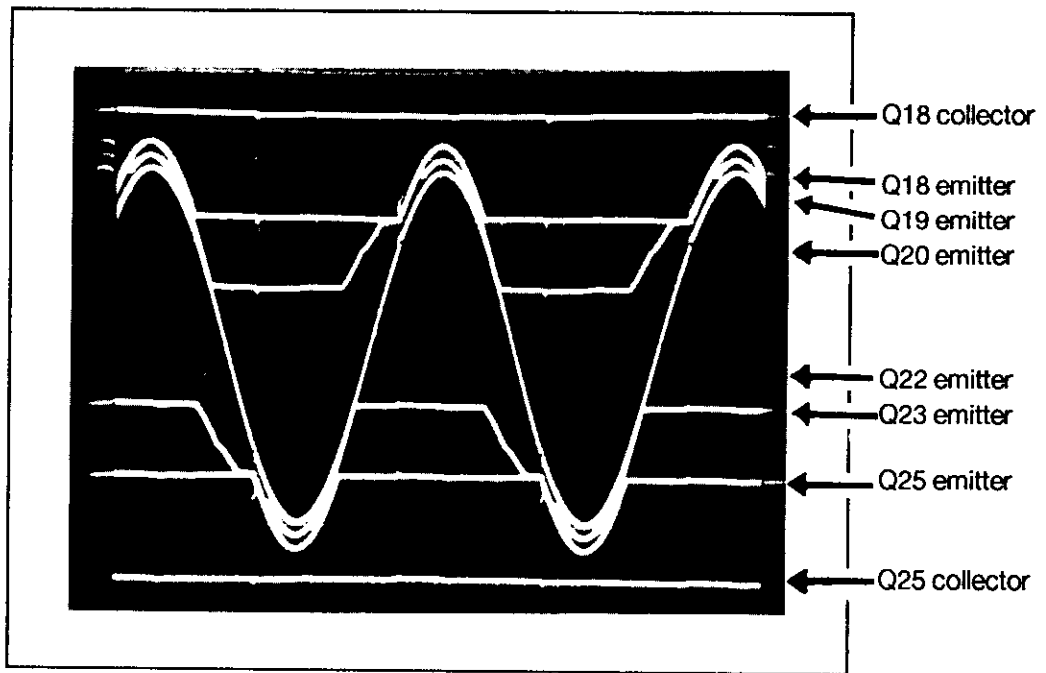

Figure 4: Commutators
E) Increase amplifier output to 54.8 Vrms (375W/8 ohms). Left and right channel commutators should appear as in Figure 4 at 2kHz.